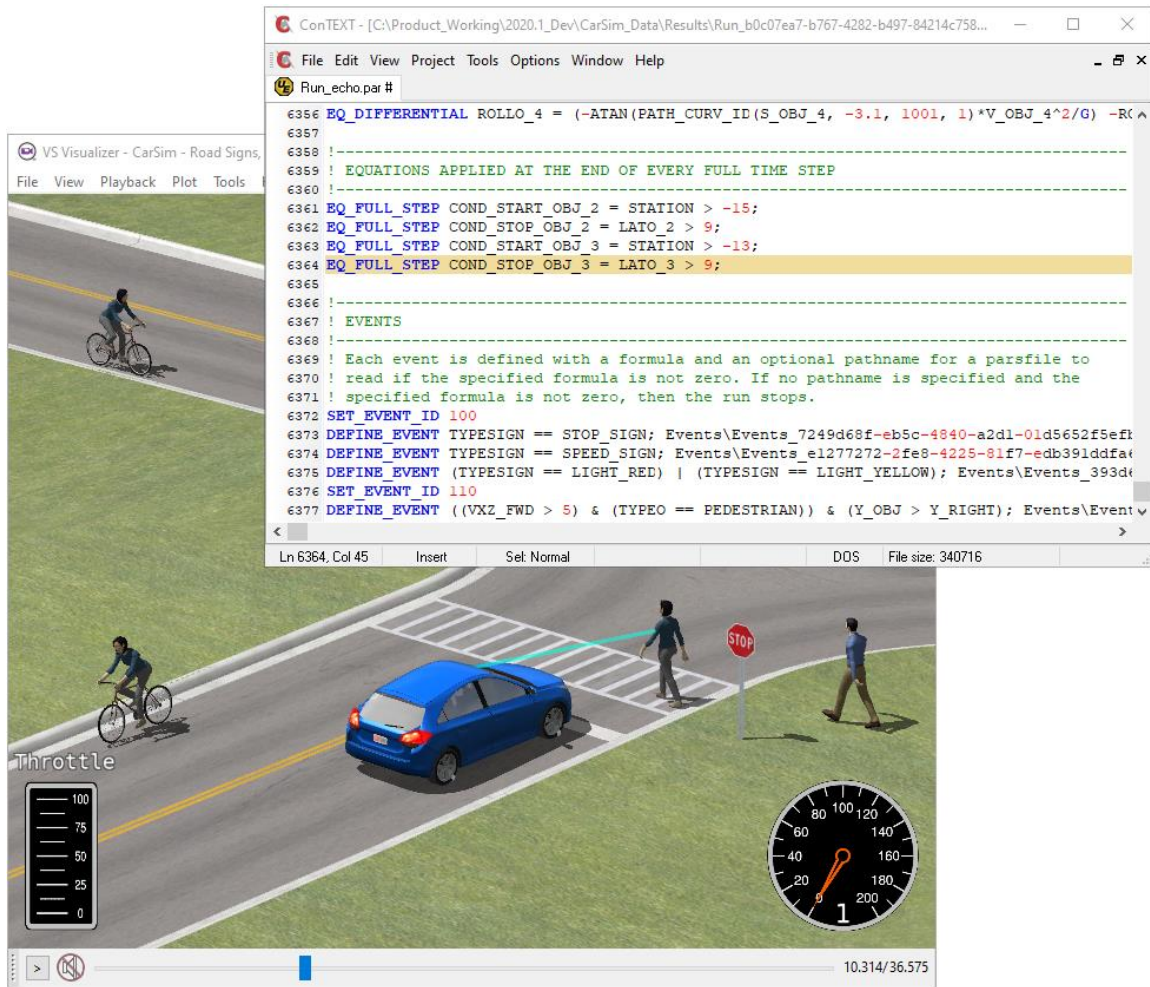
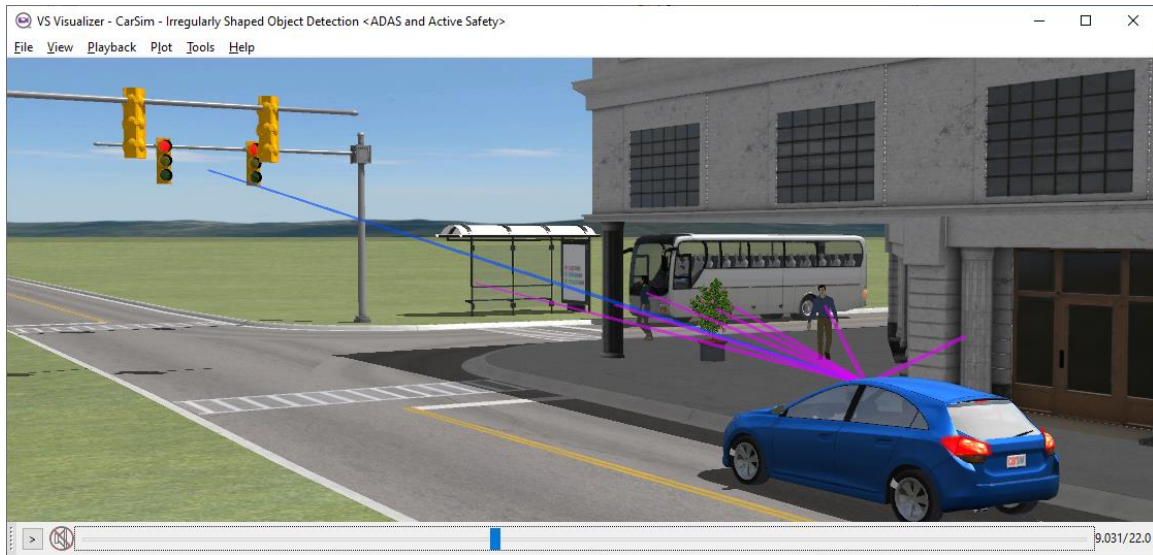

Figure 13. VS Commands are used to manage detection of signs, bicycles, pedestrians.
Figure 14. Scenario with a building, traffic lights, a bus, and pedestrians.
**Events:** The `define_event` command is used to define a condition using a formula; when the condition is non-zero (Boolean true), a new Parsfile is read that changes the simulation. Figure 13 shows a run where `define_event` and other VS Commands are used to set controls for the vehicle in response to detections of road signs, bicycles, and pedestrians.
CarSim supports up to 200 detectable objects whose location or speed is of interest; these include traffic vehicles, buildings, signs, pedestrians, bicyclists, etc. (Figure 13, Figure 14). These objects may be positioned anywhere and support multiple options for motion control: position, velocity control, acceleration control, direct attachment to a vehicle sprung mass.